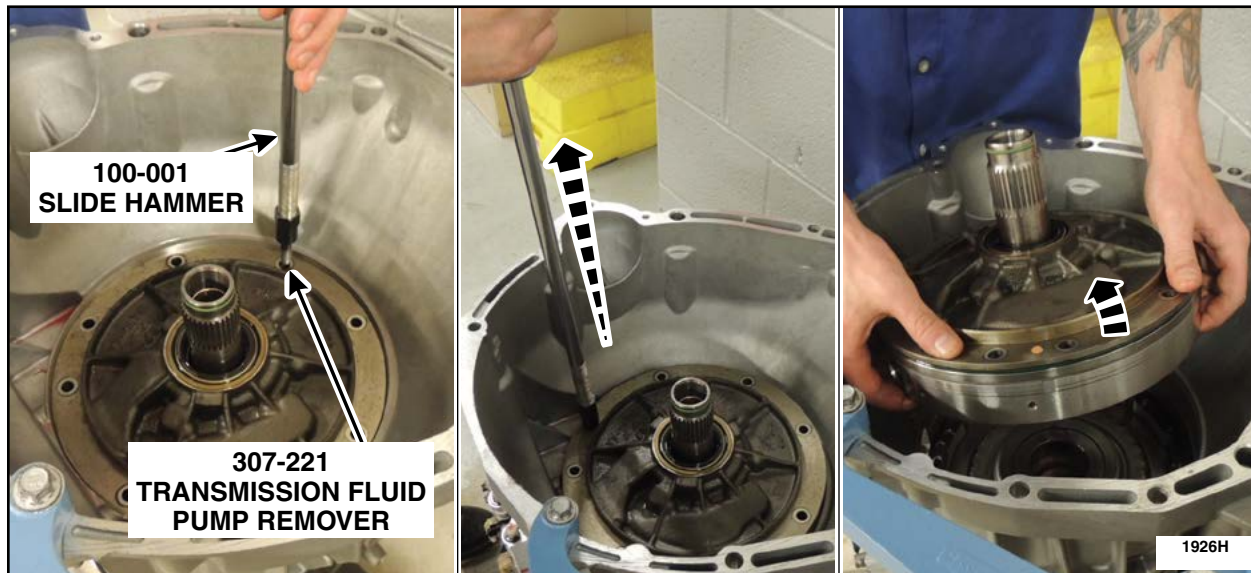

FIGURE 8
9. Remove the front pump using the Transmission Fluid Pump Remover (307-221) attached to a Slide Hammer (100-001). See Figure 8.